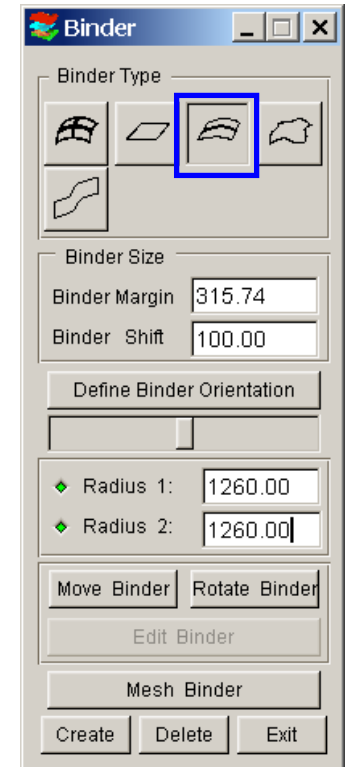

Figure 6.15
- Select Binder Type, **Conical Binder** (Figure 6.15)